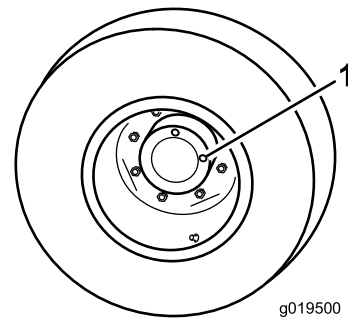

Figure 103
1. With machine on level surface, position the wheel so 1 check plug is at the 12 o'clock position and the other is at 3 o'clock position (Figure 103).
1. Check/drain plug (2)
2. Remove the plug at the 3 o'clock position (Figure 103).